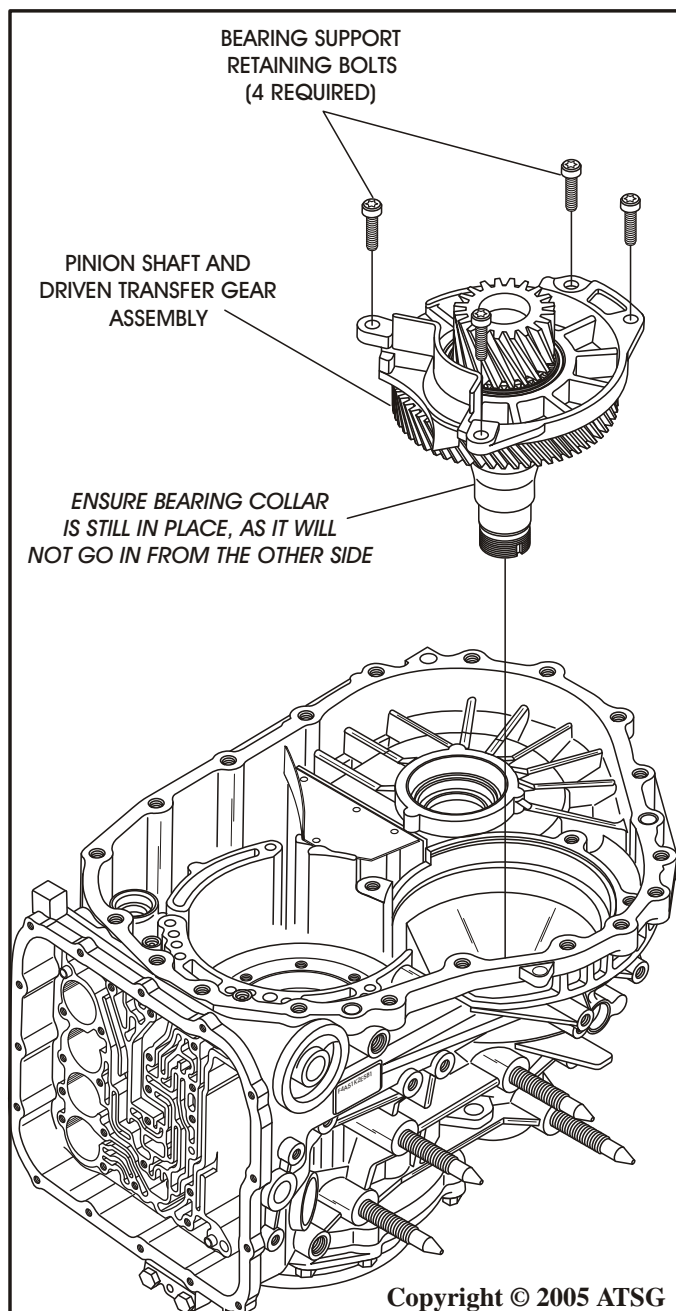

Figure 151
1. If it was removed for bearing service, pinion shaft and driven transfer gear assembly **must** be installed first, as shown in Figure 151.
2. Install the completed pinion shaft and driven transfer gear assembly into the case, as shown in Figure 151.
3. Install the four required **new** retaining bolts, as shown in Figure 151, and torque the bolts to: